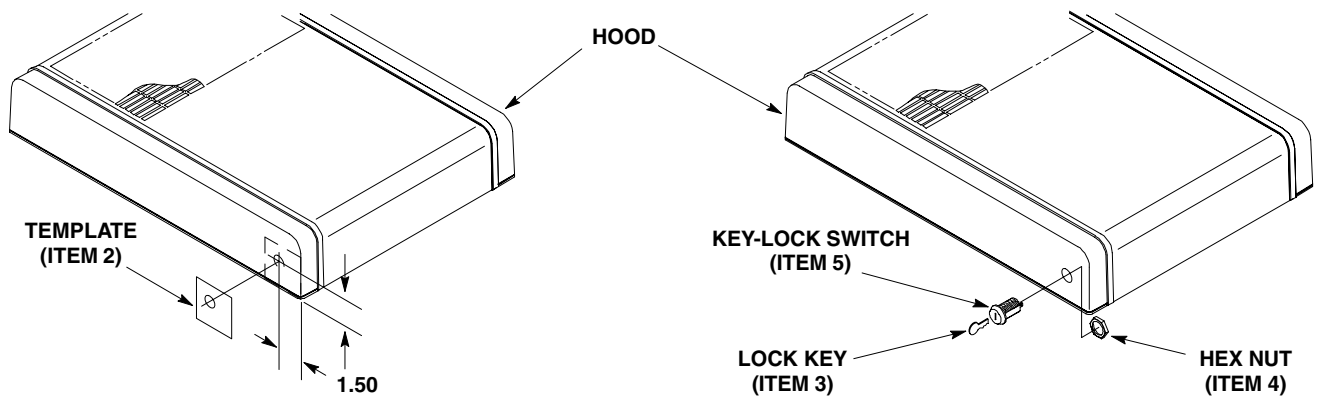

FIGURE 1. DISPENSER HOOD
3. Refer to Figure 1 for location of hole to be drilled in the Dispenser hood for installation of the KEY-LOCK SWITCH (item 5).
4. Place TEMPLATE, HOLE DRILLING (item 2) in position on Dispenser hood as shown in Figure 1.
6. Install KEY-LOCK SWITCH (item 5) in the hood as shown in Figure 1 and secure with HEX NUT (item 4).